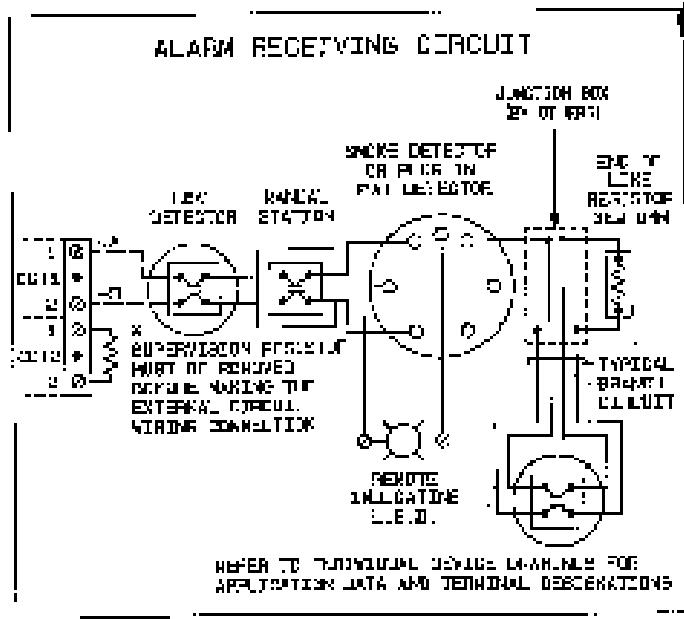

FIG. 3
Installing as shown in Figure 3. Also install the Edwards UL Listed 348 ohm, 1/2 watt, end-of-line resistor (P028480-0003 supplied in parts bag) beyond the last initiating device on the circuit. Test the circuit for opens, grounds and shorts using an ohmmeter as shown in Figure 3.
3. Measure the resistance between ground and (A) and ground and (B). An infinite resistance should be measured in each case.
4. When testing is complete, connect the wiring to terminals as indicated in Figure 3.